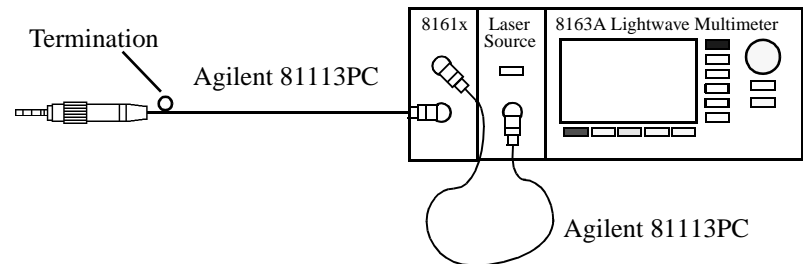

Figure 14 Termination Calibration - External source
- 1 Making sure all the connectors are clean, set up the instrument as shown in Figure 14